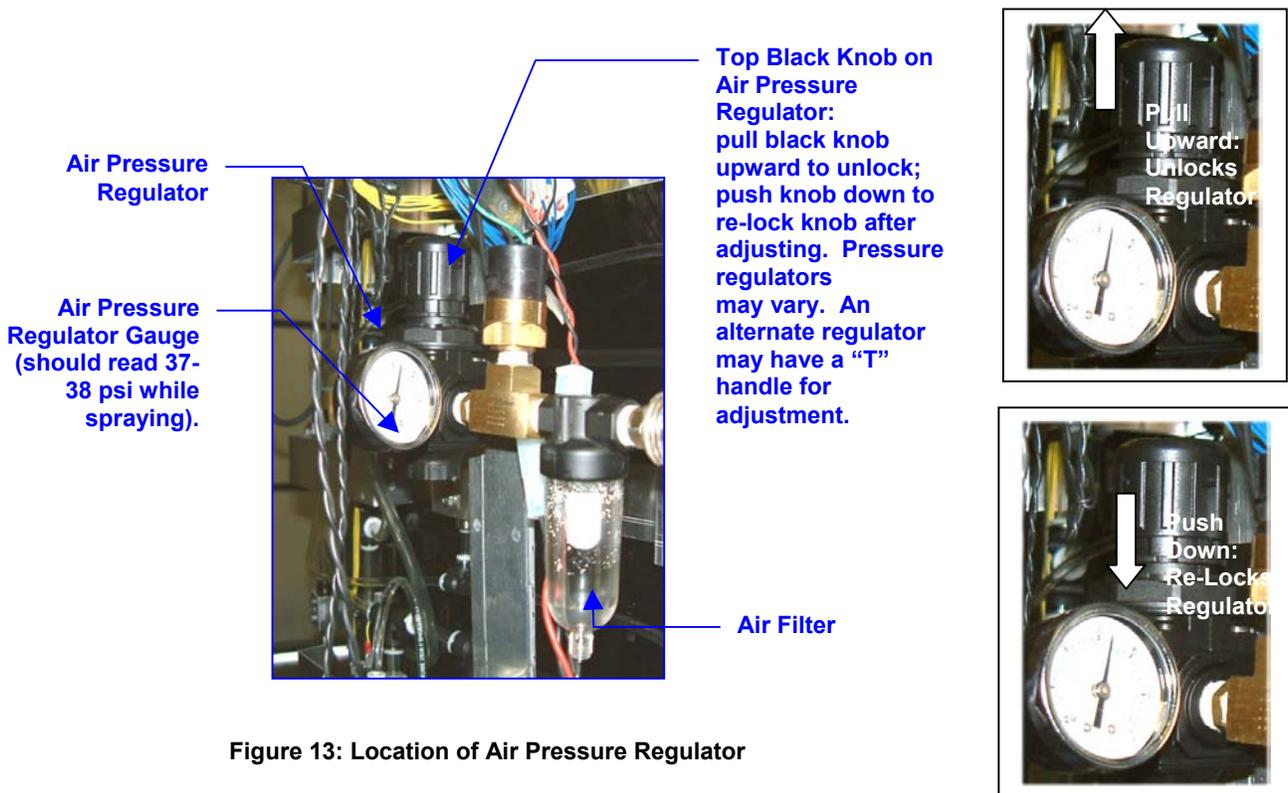

Figure 13: Location of Air Pressure Regulator
**Step 1.** Pull the top black knob on the Air Pressure Regulator upward to unlock the regulator (see figure 13).